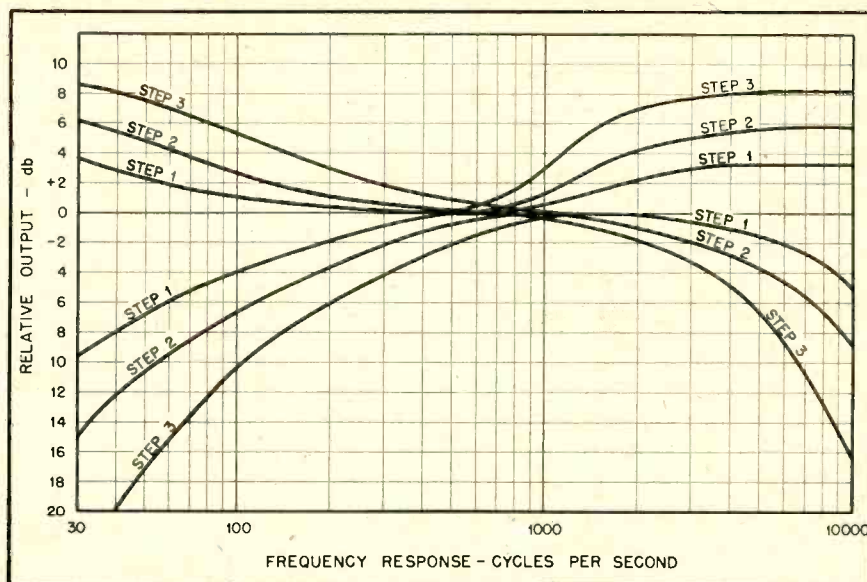
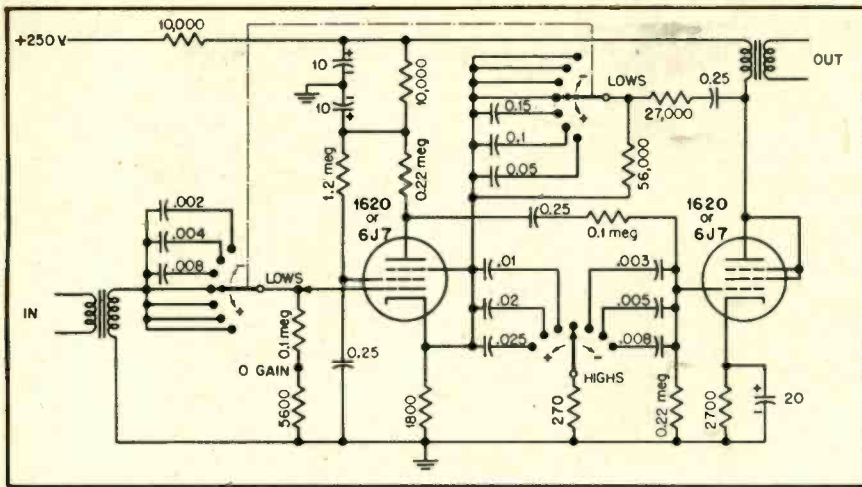

Fig. 4. Response curves obtainable with compensating preamplifiers.
Fig. 5. Preamplifier schematic. Ten-megohm click-suppressor resistors (not shown) are connected from each capacitor across to arm of associated switch.
Fig. 4 (left). A commercial amplifier, with the volume control near maximum attenuation. The series resistance of the input potentiometer attenuates the highs. Fig. 5 (right). Same amplifier as in Fig. 4 with the volume control set at full volume and indicating a slight high-frequency boost.
The preamplifiers, model EA-2, are of rather unique design, and provide means for compensating for practically any frequency response condition which is apt to be encountered in normal operation of a studio. Two controls are available, each providing seven different response curves for each end of the audio spectrum, with the curves shown in Fig. 4. Each preamplifier has a gain of 25 db, although internal connections may be made to reduce the gain to zero at 1000 cps. As will be noted from the schematic, Fig. 5, the boost positions operate in the feedback circuit, with the droop positions being simple capacitance roll-off circuits. Low-microphonic 1620's are used in both stages, and with d-c filament supply, the hum and noise level is below -90 dbm.
Fig. 5. Performance curves. (A) and (B)—impedance of source and load sections. (C), (D), and (E)—overall frequency response of individual sections and of both together. (F)—leakage in db due to capacitance coupling in db.